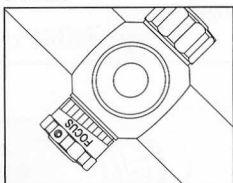

Figure 7
**Note:** Side Focus Models do not have a distance scale and should be adjusted until the image is clear and parallax free. (Figure 7)